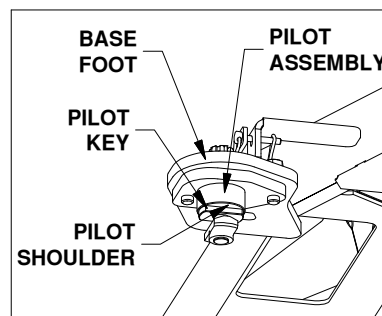

FIGURE C3:
2. Each leg of the Companion base has an adjustable pilot assembly which is attached to the foot with two 1/2" cap screws, as shown in figure C3. To adjust the pilot assemblies that do not fit into the attachment points, loosen both the 1/2" cap screws so the pilot assembly can move freely, see figure C4. Set the base over the attachment points and adjust the pilot assemblies until the pilot keys pass through the slot in the attachment points and the pilot shoulders rest flat against the top of the attachment points. When all the pilot assemblies are aligned and inside the attachment points, push the base towards the cab and use a tape measure to verify that the base is approximately square with the truck bed. Tighten any loose cap screws to 80 ft-lbs.